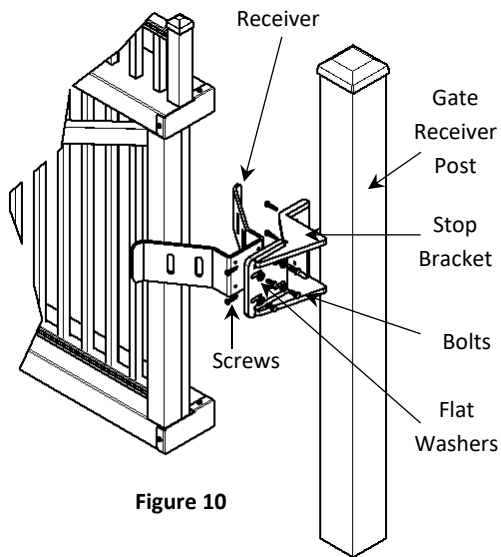

Figure 10
8. Install stop bracket at desired height with screws provided. Attach receiver. Adjust if necessary. (Figure 10)